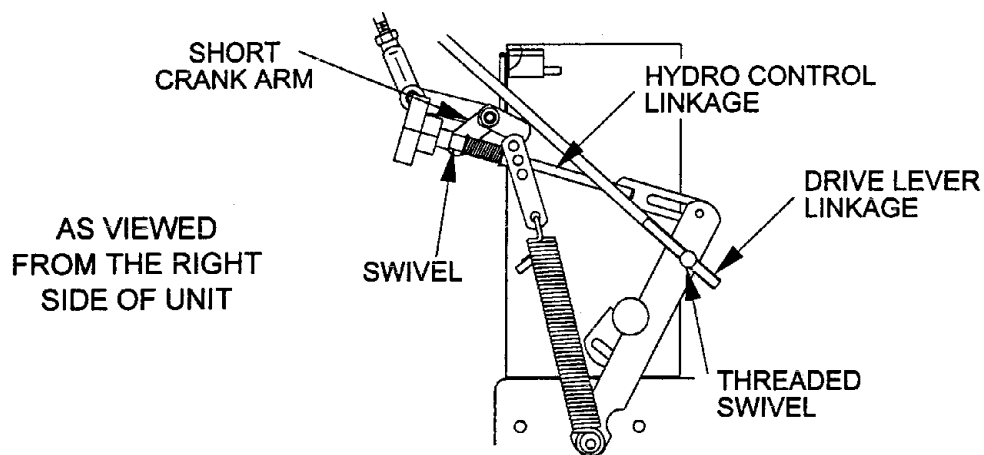
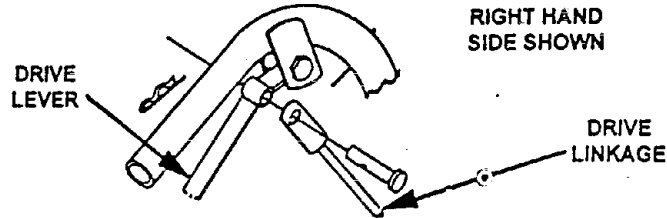

FIG. 4
FIG 5
- 3.12 Note the square swivel at the end of the hydro control arm linkage. Place the stud end of the swivel into the hole on the end of the short crank arm located at the end of the speed control crank (top, rear of fuel tank support). Install a 1/4" washer and fasten with a 3/32" x 1/2" cotter pin from bolt bag. Repeat on opposite side of unit (See Figure 4).
- 3.15 Thread each drive linkage into the threaded swivel. (See Figure 4). Connect the upper end of each drive linkage to the drive levers. Fasten with a long clevis pin and cotter pin from bolt bag. Be sure the clevis pin is first inserted through the drive linkage and then through the drive lever from the outside before installing the hairpin cotter (See Figure 5).